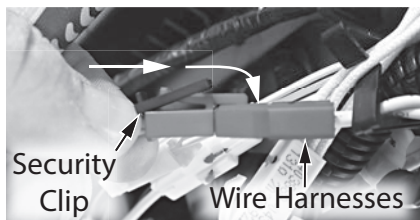

Figure 38 - Secure wiring with security clip
- 20** Connect new, long heater block assembly wires previously disconnected in **Step 12** to reverse side of control board. Secure wire harnesses with security clip. See Figure 38.